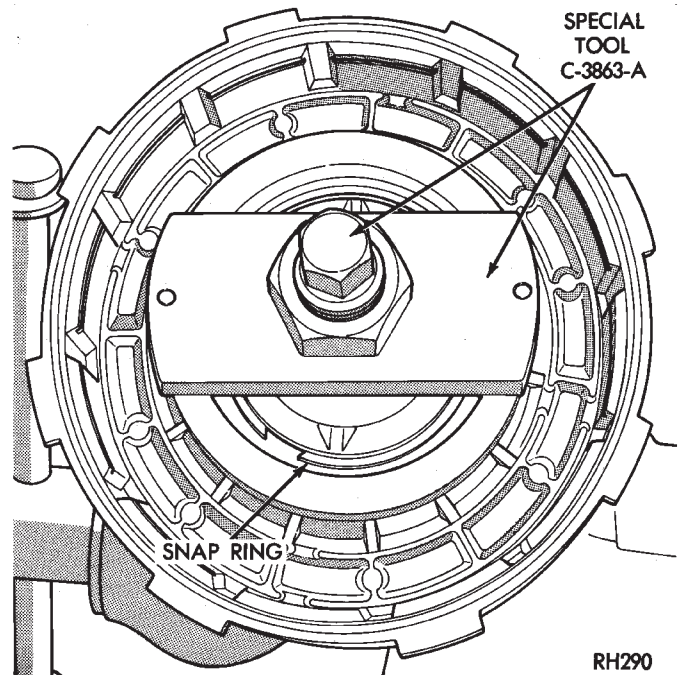

Fig. 62 Removing Front Clutch Spring Retainer Snap Ring
(2) Compress clutch piston retainer and piston springs with Compressor Tool C-3863-A (Fig. 62).
(3) Remove retainer snap ring and remove compressor tool.
(4) Remove clutch piston springs. **Note number and position of piston springs for assembly reference.**